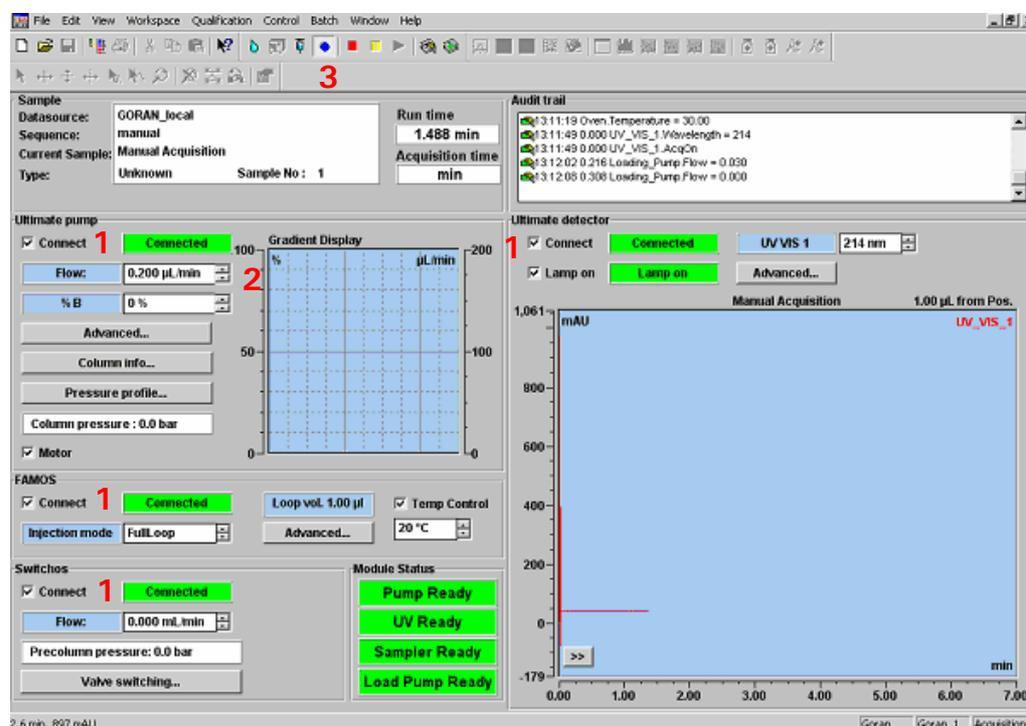

FIGURE 2-28 The Control Panel for UltiMate, FAMOS and Switchos
To gain control of the different Ultimate modules, each module of the configuration need to be connected to the control panel. Check the **Connect** boxes to connect the individual modules (item 1; FIGURE 2-28).
Flow delivery and baseline monitoring can now be started. Enter the column flow rate in the **Flow** field in the *UltiMate pump* box (item 2; FIGURE 2-28) and click on the blue circle in the toolbar to start baseline monitoring (item 3; FIGURE 2-28).